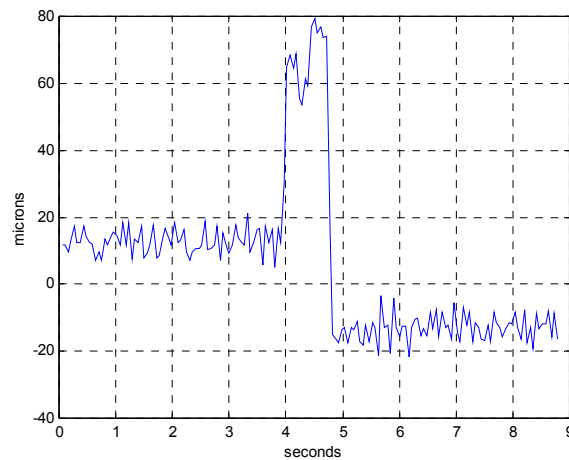

Figure 19, Z-axis Not Optimally Tuned Screen
- Refer to **Figure 19**. Z-axis without being optimally tuned (default gains). Reported retract lag was 79 microns and threading lag of 12 microns.